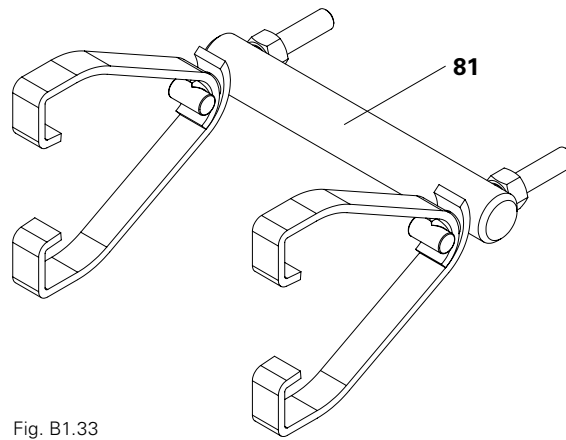
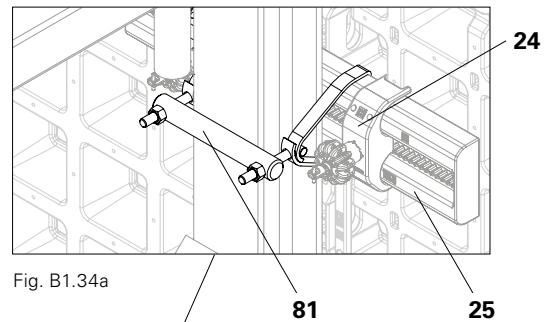
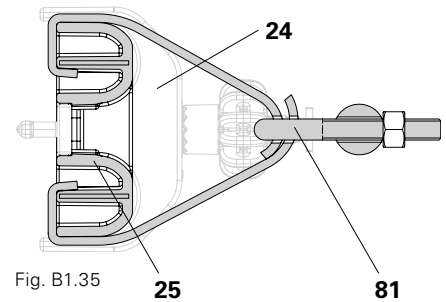

Fig. B1.33
Fig. B1.34a
Fig. B1.35
DUO SB hook straps (**81**) are used to connect PERI brace frames (SB-A0, A, B, C, SB-1, SB-2, SB-L) and DUO DP panels (**10**) in combination with the DUO 62 compensation waler (**25**). (Fig. B1.33 + Fig. B1.34a)
2. Fit at least two DUO 62 compensation walers (**25**) onto each vertical joint on panel DP 135 (**10**). Choose the correct position depending on the SB brace frame so that the DUO SB hook strap (**81**) is correctly positioned. (Fig. B1.35)
3. Attach the DUO SB hook strap (**81**) to the DUO 62 compensation waler (**25**). Ensure that the DUO SB hook strap (**81**) is correctly positioned. (Fig. B1.34a + Fig. B1.35)